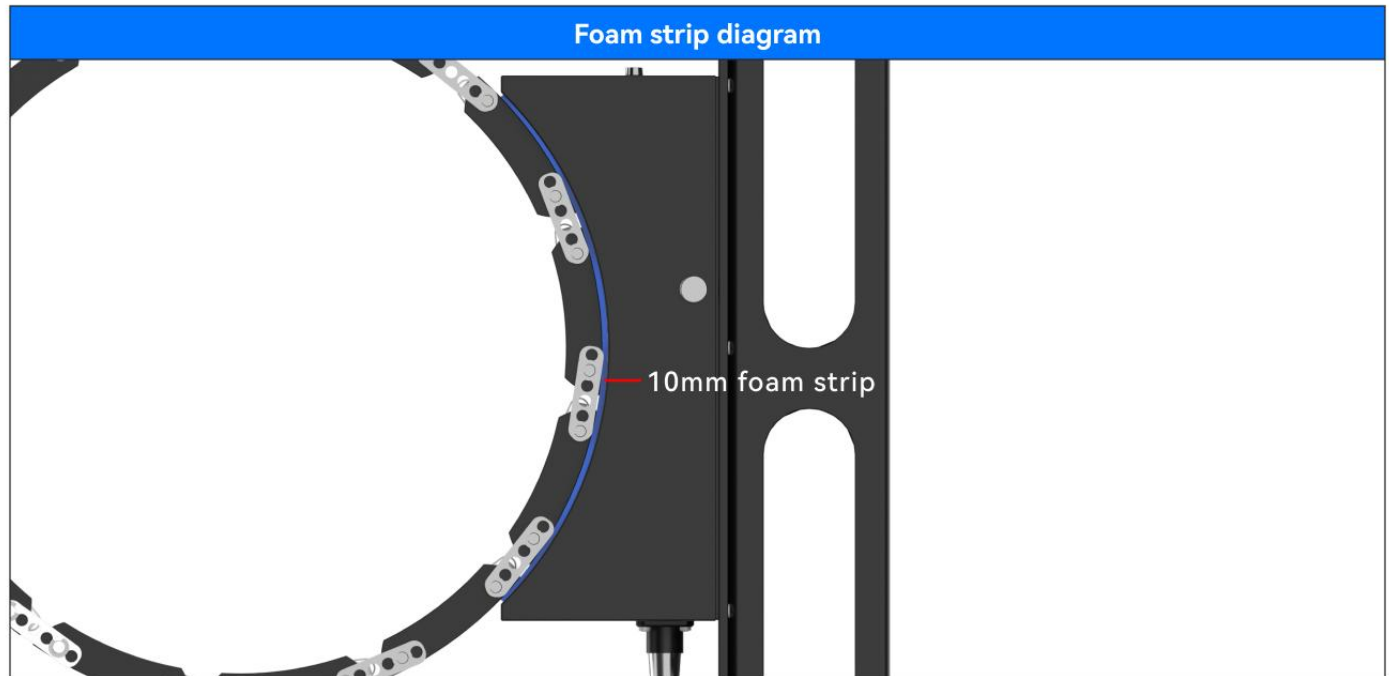

Figure 3.5
3. Lay a 10mm thick foam strip on the curved surface of the stator, face up. This will act as a gasket, giving you a separation gap close to the final field installation. Place the rotor band on top of the foam above the stator, as shown in Figure 3.5.